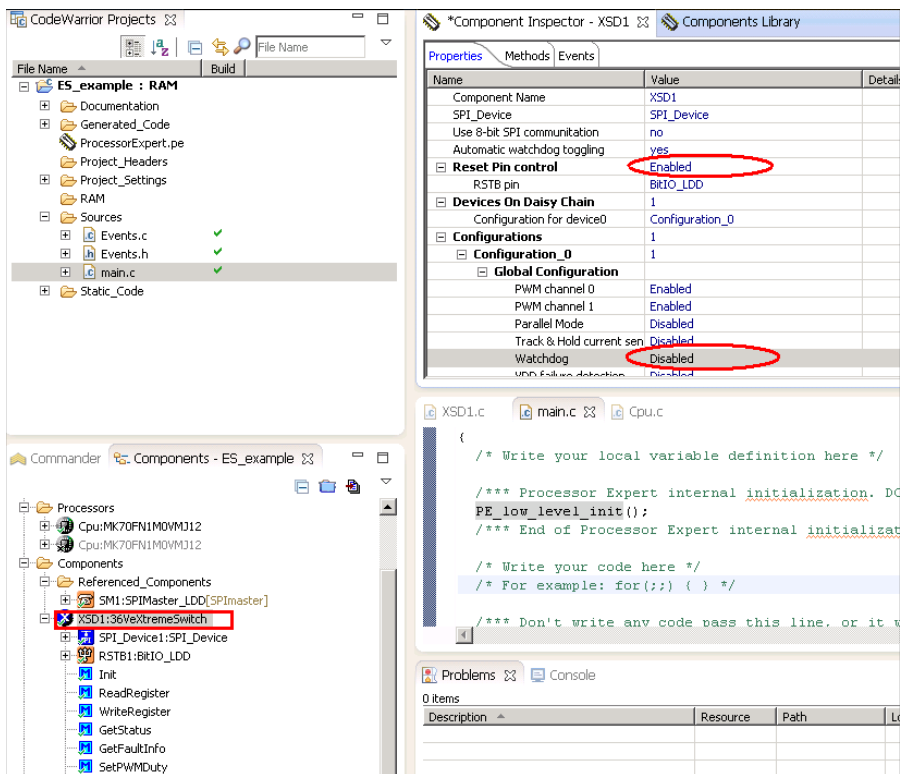

Figure 18. Enable RSTB Pin Control
- 4. Double click 36VeXtremeSwitch component then Enable RSTB pin control (see Figure 18).